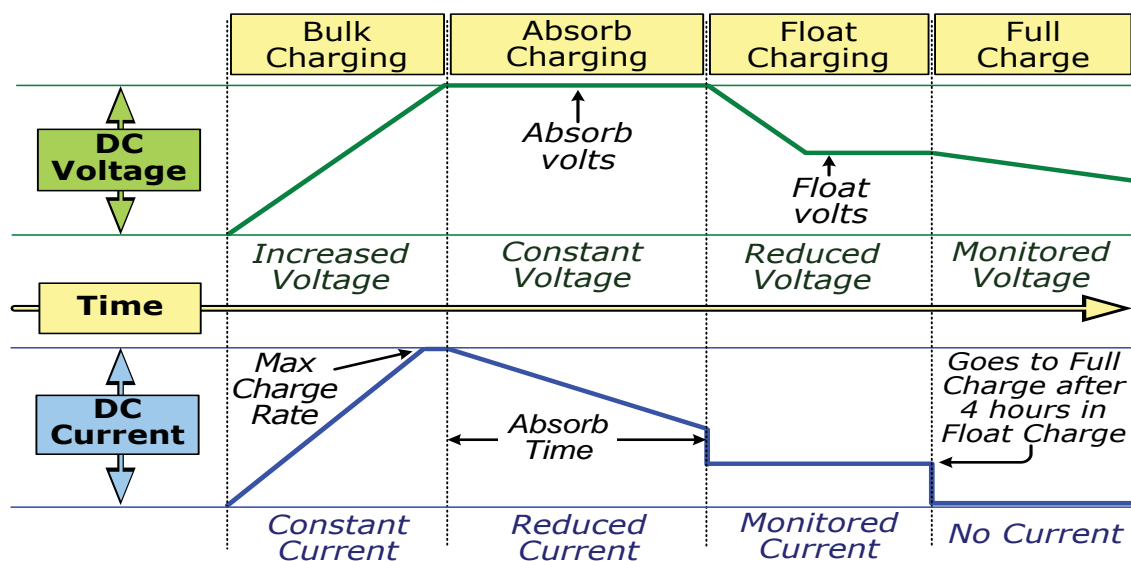

Figure 3-5, Automatic 4-Stage Charging Graph
The multi-stage charger in the MS-G Series can use up to five different charging stages to help monitor and keep the batteries healthy. The five stages include an automatic 4-stage charging process (see Figure 3-5)—Bulk, Absorb, Float, and Full Charge—and a manual Equalization (EQ) charge stage. The automatic 4-stage charge process provides complete recharging and monitoring of the batteries without damage due to overcharging. The EQ stage (requires a remote control display to enable) can be used to stir up stratified electrolyte and to reverse any battery plate sulfation that may have occurred—if recommended by your battery's manufacturer.
The Charge mode provides up to four separate charging stages: Bulk Charging, Absorb Charging, Float Charging and Full Charge (Figure 3-5).